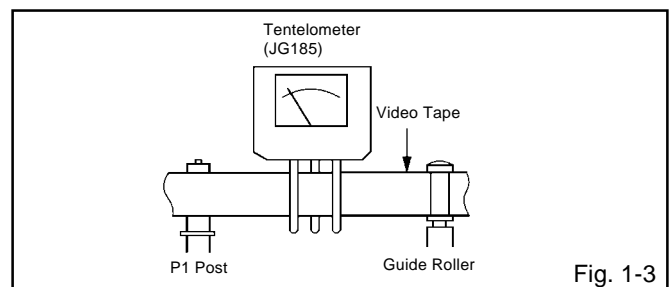

Fig. 1-3
- Install the tentelometer (JG185) as shown in **Fig. 1-3**. Confirm that the meter indicates 20 ± 2 gf in the beginning of playback.
- After confirmation and adjustment of Tension Post position (**Refer to item 1-2**), load the cassette type torque tape (**KT-300NR**) and set to the PLAY mode.